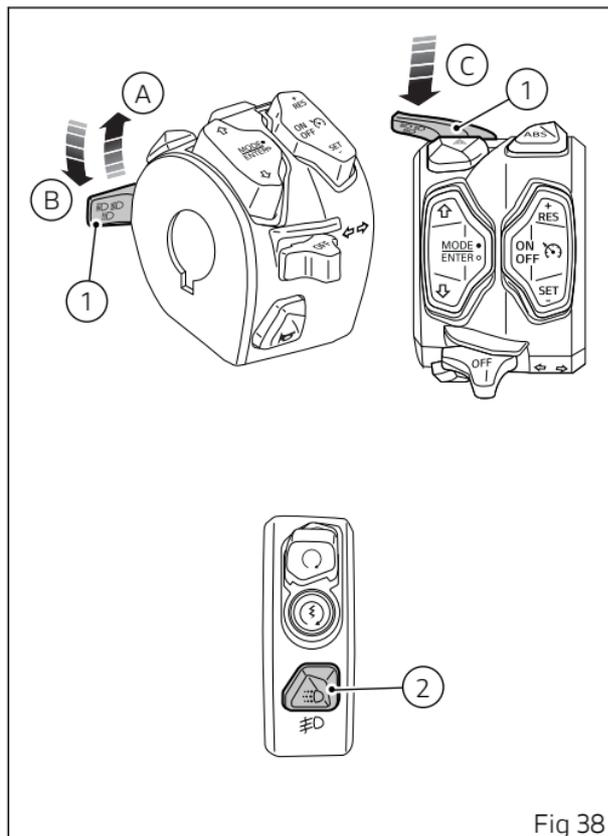

Fig 38
When the DRL are set to "Auto" mode, the corresponding warning light (16, Fig 60) will turn on. By pressing button (2, Fig 38) DRL are turned off; by pressing again button (2, Fig 38) DRL turn on with control strategy set to "Manual".
If DRL have been set in "Manual" mode (see page 216), to turn off or on the DRL, use button (2, Fig 38). When the DRL are set to "Manual" mode, the corresponding warning light (17, Fig 60) will turn on.
- if DRL are present, press and hold button (2, Fig 38) for a long time;
- if DRL are not present, press button (2, Fig 38).